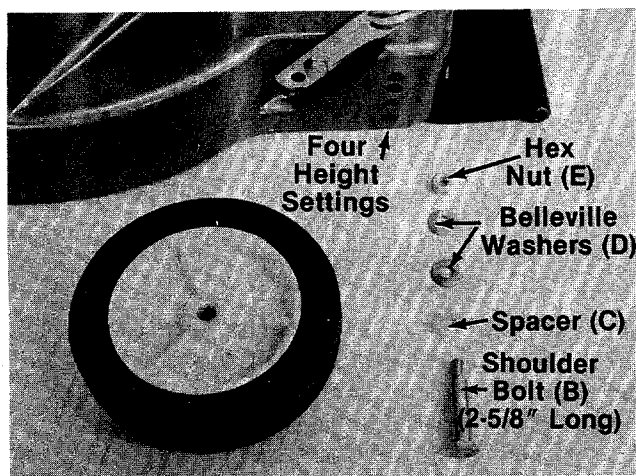

FIGURE 5.
- Place shoulder bolt (B) (2-5/8" Long) through rear wheel. See figure 5.
- Place spacer (C) on shoulder bolt, next to wheel.
- Place one belleville washer (D) on shoulder bolt, with the cupped side of washer toward the deck (away from the spacer).
- Secure wheel to deck with one belleville washer (D) on the inside of the deck (cupped side against the deck) and hex nut (E).